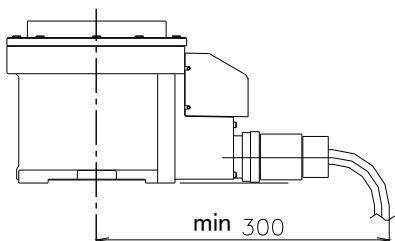
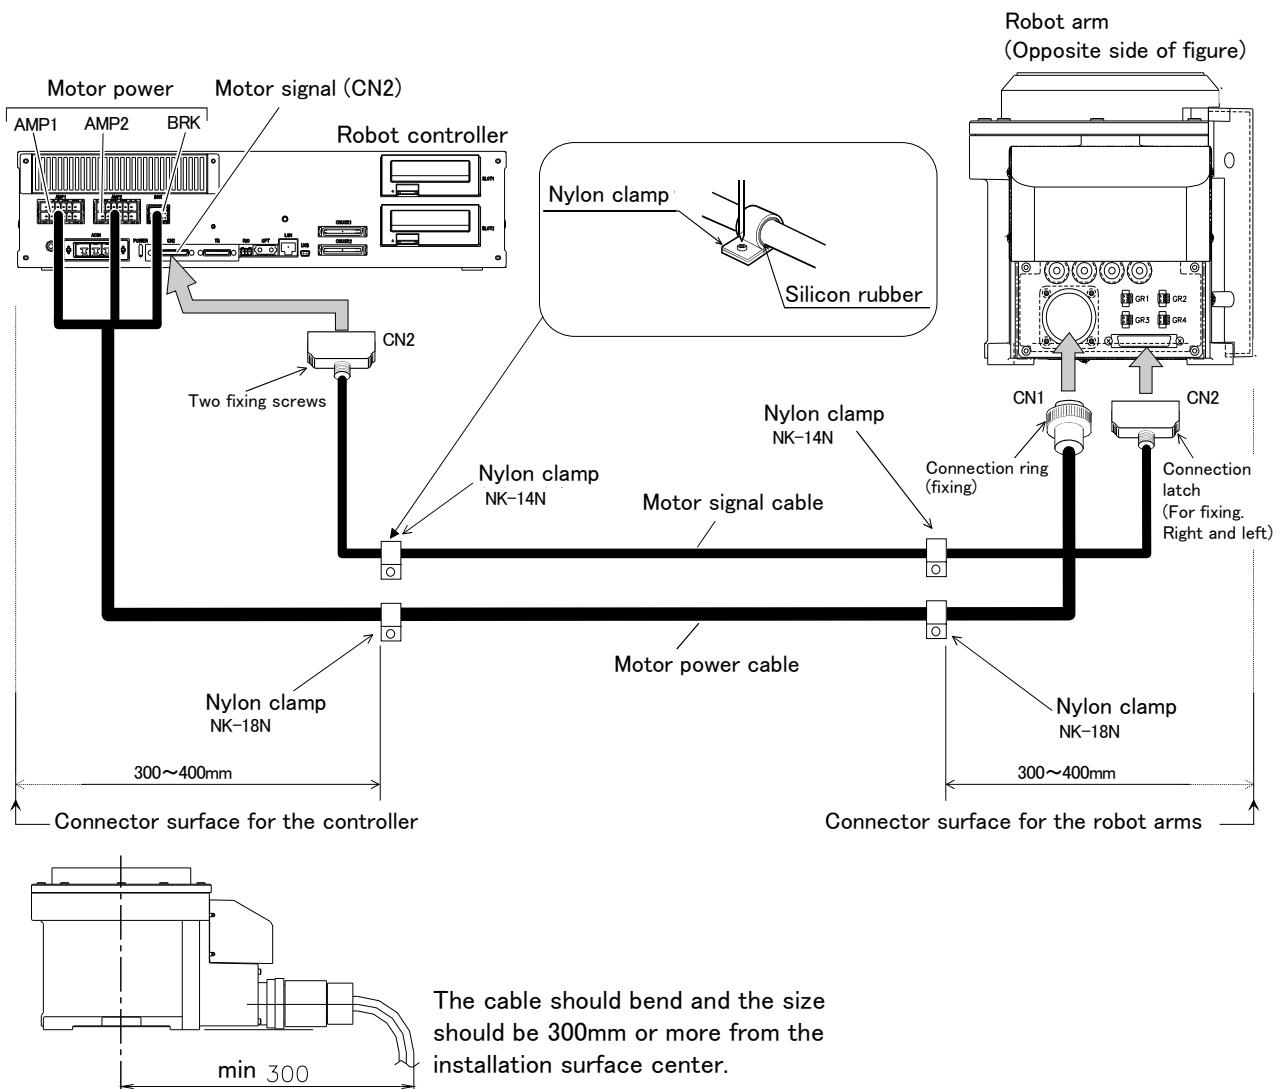

Fig.2-12 : Fixing the flexible cable (CR750 CE marking specification)
Fig.2-13 : Fixing the flexible cable (CR751)
- (1) Connect the connector to the robot arm.
- (2) Wind the silicon rubber around the cable at a position 300 to 400 mm from the side of robot arm and controller as shown in Fig. 2-11 (CR750), Fig. 2-12 (CR750 CE marking specification) or Fig. 2-13 (CR751), and fix with the nylon clamp to protect the cable from external stress.